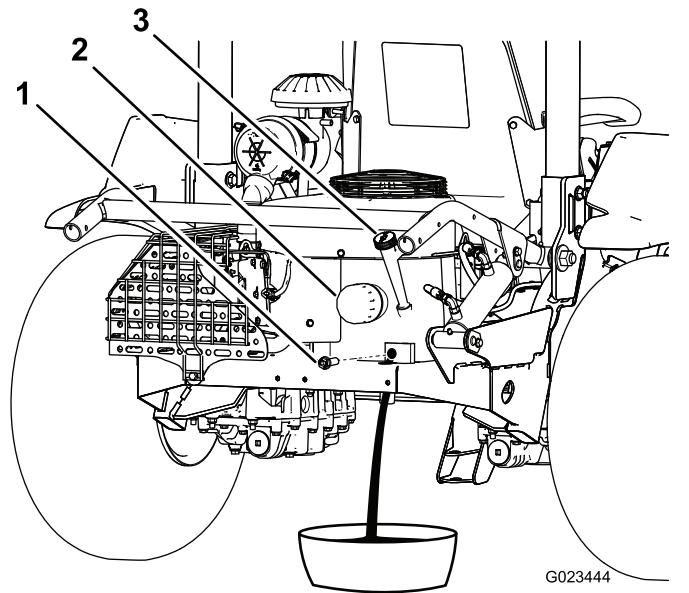

Figure 39
3. Remove the drain plug (Figure 39) and let the oil drain into a suitable container. When the oil stops draining, install the drain plug.